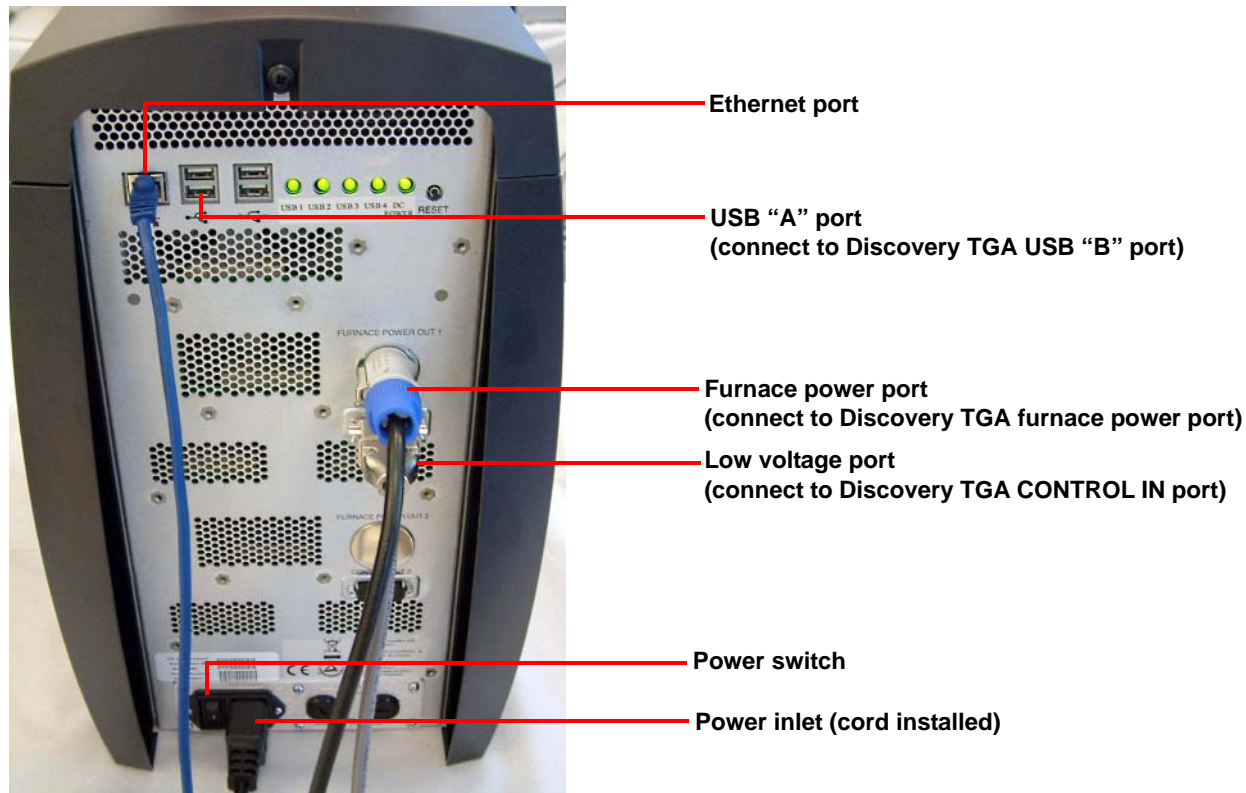
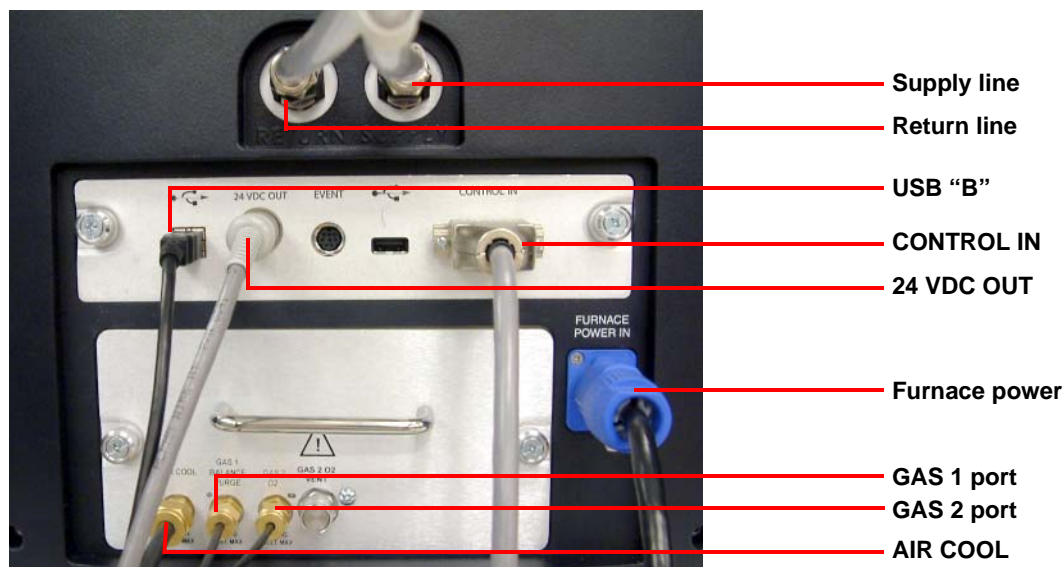

Figure 13 Common Cabinet rear panel connections.
Figure 14 Discovery TGA rear panel connections.
- 1 Connect the low voltage cable from the **CONTROL OUT 1** port on the back panel of the Common Cabinet to the **CONTROL IN** port on the back panel of the Discovery TGA. Refer to Figure 13 and Figure 14 for connection ports.
- 2 Connect the furnace power cable from the **FURNACE POWER OUT 1** port on the back panel of the Common Cabinet to the **FURNACE POWER IN** port on the back panel of the Discovery TGA. Refer to Figure 13 and Figure 14 for connection ports.
- 3 Connect the USB cable from the USB “A” port on the back panel of the Common Cabinet to the USB “B” port on the back panel of the Discovery TGA. Refer to Figure 13 and Figure 14 for connection ports.
It is important to accurately control the sample atmosphere during Discovery TGA experiments. This is achieved by connecting purge gases to the system. Purge gas is distributed separately to two parts of the TGA: the furnace (sample) and the balance chamber. The Discovery TGA is equipped with mass flow controllers (MFC) to control the flow rates of the gases. Up to four different gases may be connected to the instrument to facilitate gas switching. Nitrogen is typically used for **Gas 1**. Follow these instructions to connect the purge lines. Refer to Figure 14 for gas port locations.